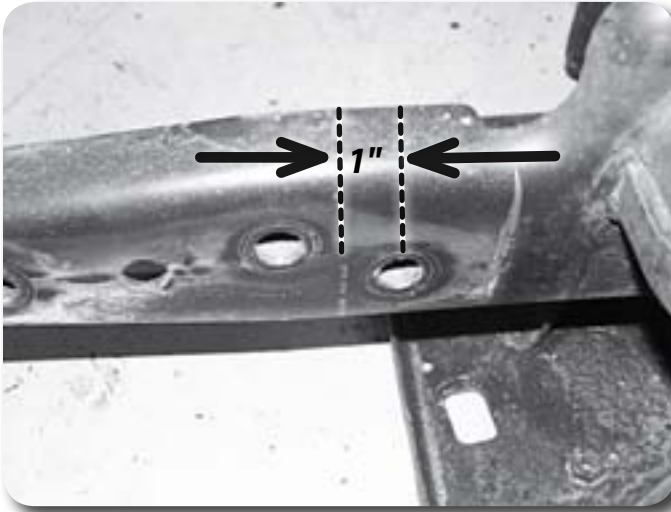

Figure 28
52. Locate the rear-most welded nut on each side of the rear bumper. Measure forward from the center of the welded nut 1" and make a vertical cut line **Figure 28**. Cut the end of the bumper mount off at the line (driver's and passenger's side).